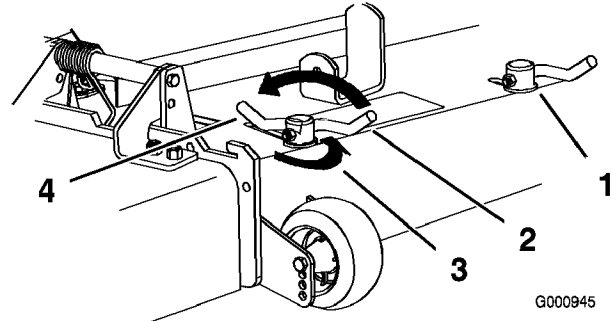

Figure 21
- Swing the lever back over to tighten the baffle and cam locks (Figure 21).
- To adjust the cam locks, swing the lever up to loosen the cam lock (Figure 21).